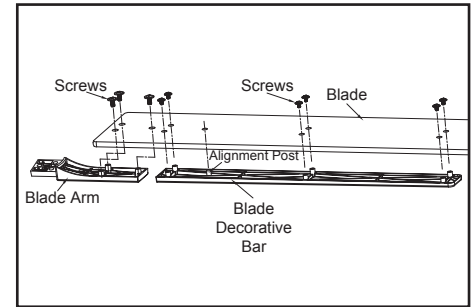

Figure 11
1. Attach a blade arm to a blade by aligning three screw holes in the blade arm with the screw holes in the blade and secure with screws provided; Attach a blade decorative bar to the blade by aligning six screw holes and one alignment post in the blade decorative bar with the holes in the blade and secure with screws provided; Repeat for the remaining blades. (Figure 11)